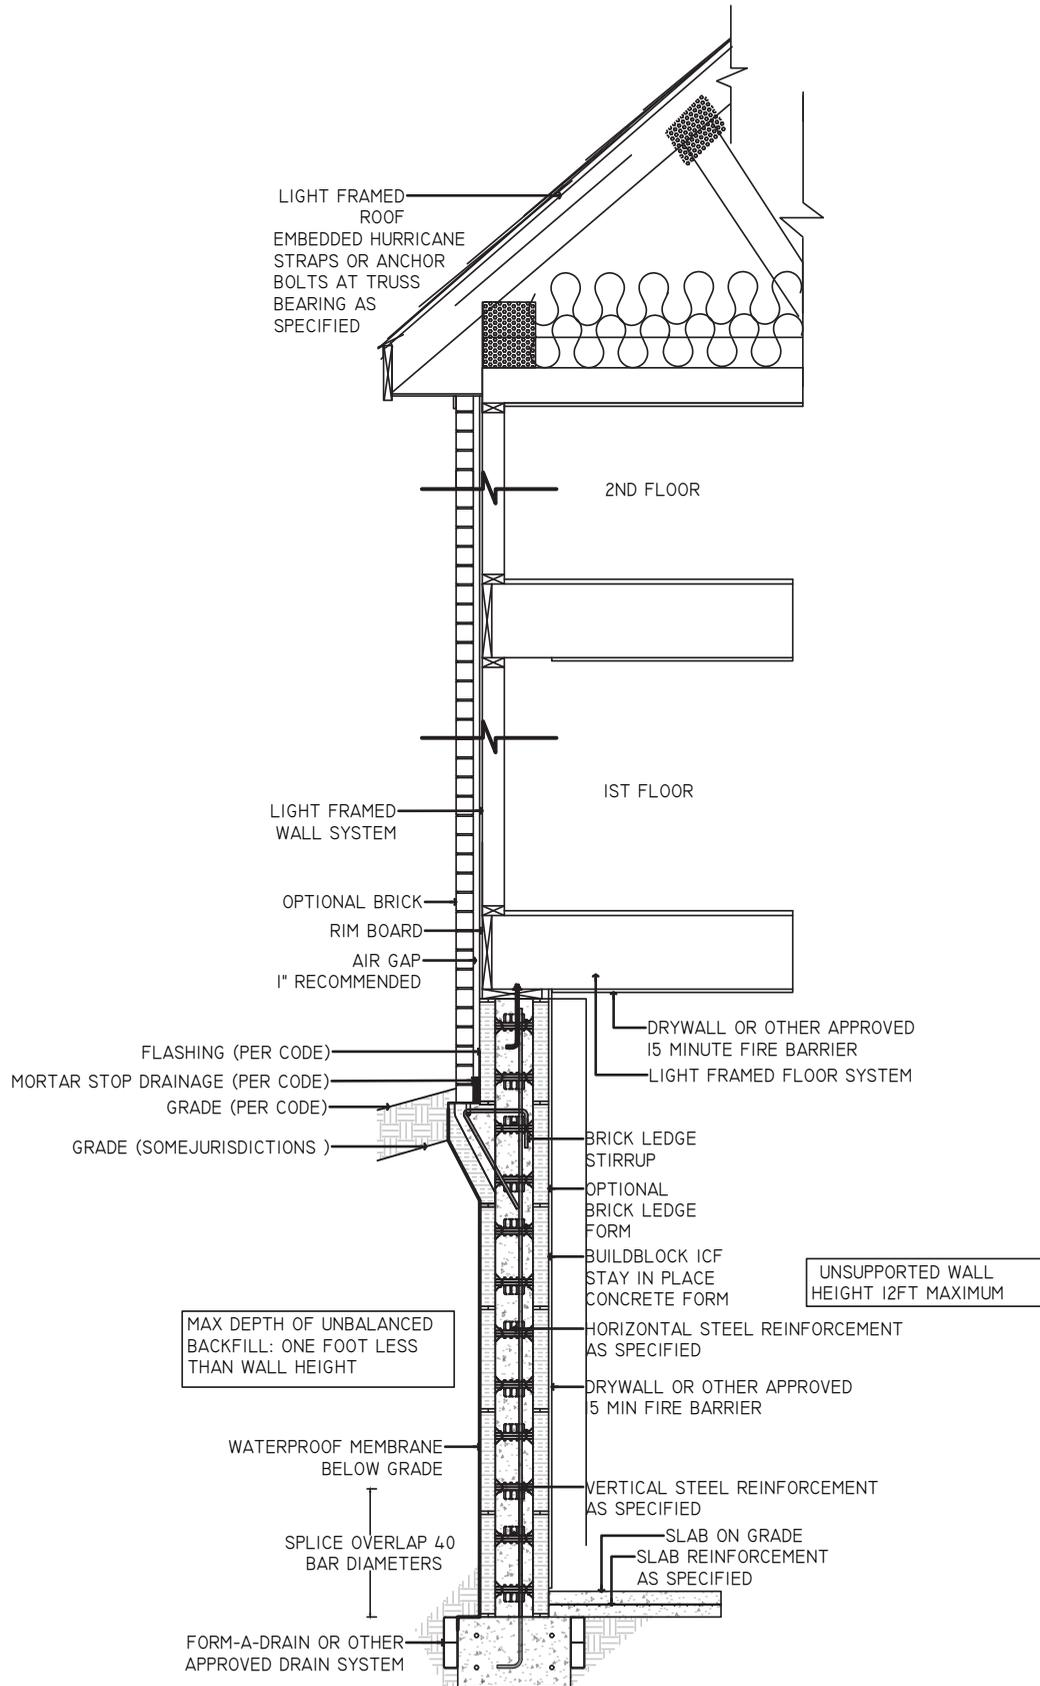

FIGURE 6.2. LOAD CASE 2. SECTION CUT THROUGH FLAT WALL OR VERTICAL CORE OF SCREEN GRID WALL. SUPPORTING 2 STORIES OF LIGHT FRAMED WALL.
- Load Case A2 Buildblock wall supporting one-story wood framed construction. - Figure 6.2; Table 6.3a&b